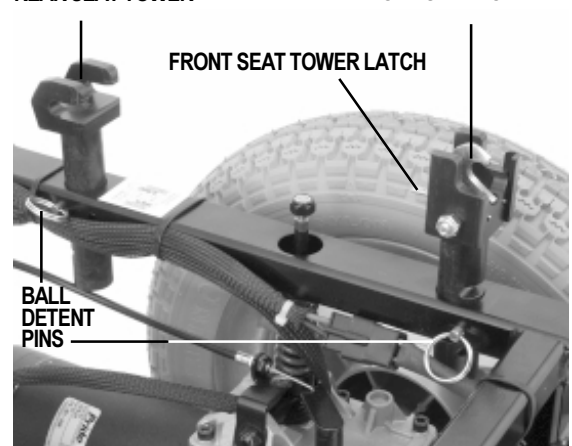

Figure 8. Front and Rear Seat Towers
2. Press both seat plungers and lift up the front of the seat (if equipped with footrest). See figure 7. Press both front seat tower latches and lift up the front of the seat (elevating leg rests and swing-away footrest). See figure 8.
6. Remove the ball detent pin from each of the four seat towers. See figure 8.